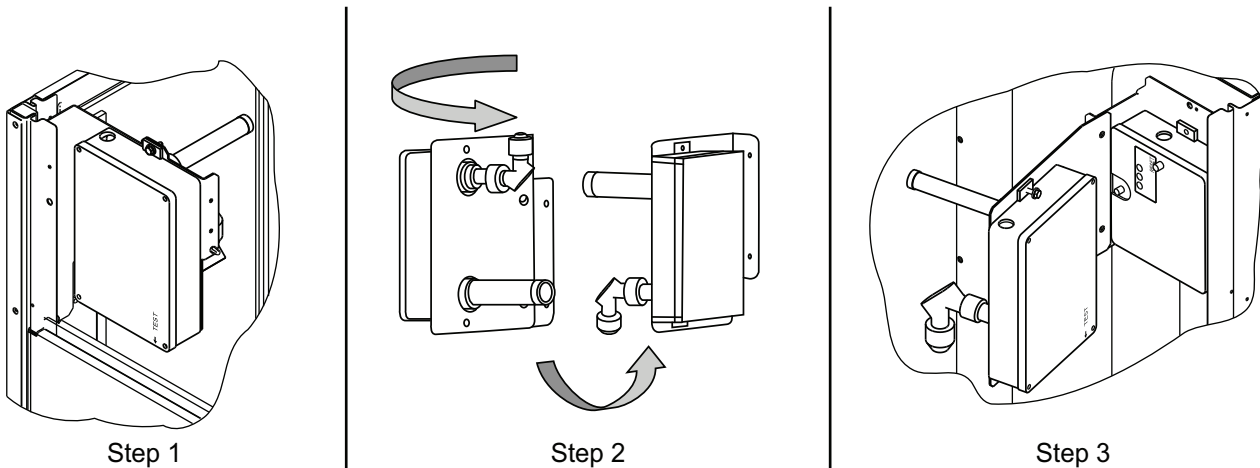

Fig. 48 — Completing Installation of Return Air Smoke Sensor
1. Unscrew the 2 screws holding the return-air smoke detector assembly. See Fig. 48, Step 1. Save the screws.
2. Turn the assembly 90 degrees and then rotate end to end. Make sure that the elbow fitting is pointing down. See Fig. 48, Step 2.
3. Screw the sensor and detector plate into its operating position using screws from Step 1. See Fig. 48, Step 3.